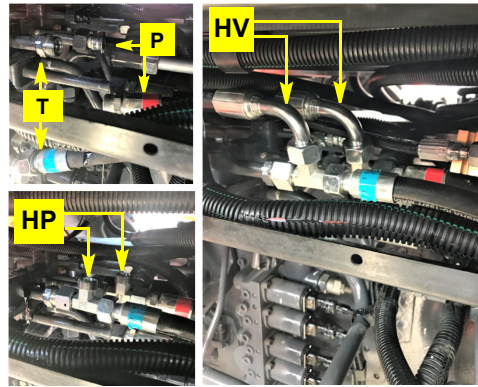

Figure 5: Tank and pressure hoses disconnected; run tees installed; tank and pressure hose connected
- b. Disconnect the hoses from the lines (Figure 5, top left image) and install run tees **HP** (bottom left image). Connect the tank and pressure hoses **HV** to from the T and P ports of **HA** to their respective run tee branches here (Figure 5, right image).